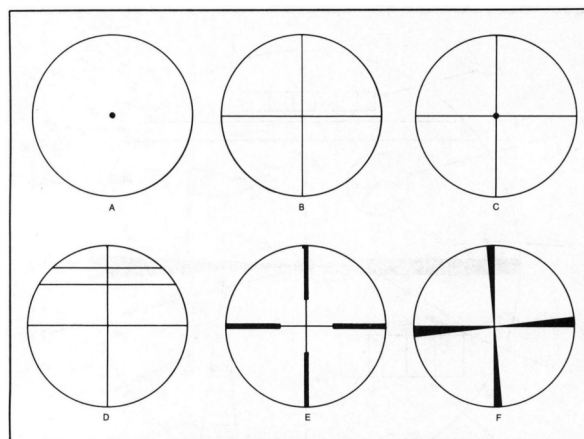

Fig. 7-3. Common reticles. A: Dot. B: Standard crosshairs. C: Dot and crosshairs. D: Rangefinder. E: Duplex. F: Tapered.
The more useful crosshairs or *reticles* are seen in Fig. 7-3. The dot (A) is an excellent choice for target shooting, where there will be no distraction or confusion with backgrounds. The standard crosshair (B) is very common and has enjoyed more popularity than any other. Blending the dot with crosshairs (C) is an attempt to eliminate background confusion. Range-finding reticles (D) require the shooter to know the distance from back to belly of the type of game being hunted. The game is centered in the upper set of hairs; depending on the size of the animal and how completely it fills the upper set of hairs, the approximate distance can be estimated. Dual (or duplex) crosshairs (E) are an excellent choice for the average hunter. The wide portions of the hairs eliminate any confusion of branches, while the fine center portion of the hairs allow accurate sighting on target. In the final set (F), the taper hairs draw the shooter's eye to the center of the scope. This system also eliminates background confusion, but covers more of the target than the dual crosshair combination.